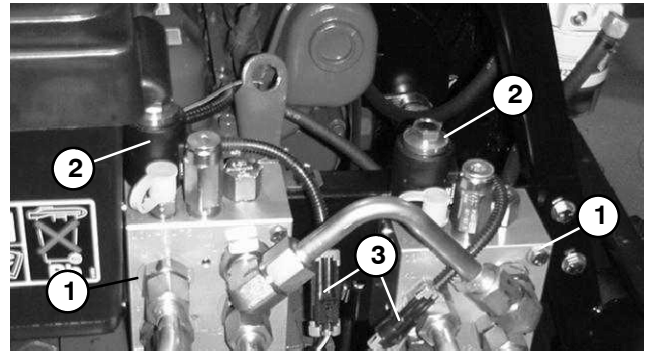

Figure 25
1. Make sure engine is off. Disconnect hydraulic valve solenoid electrical connector (Fig. 25).